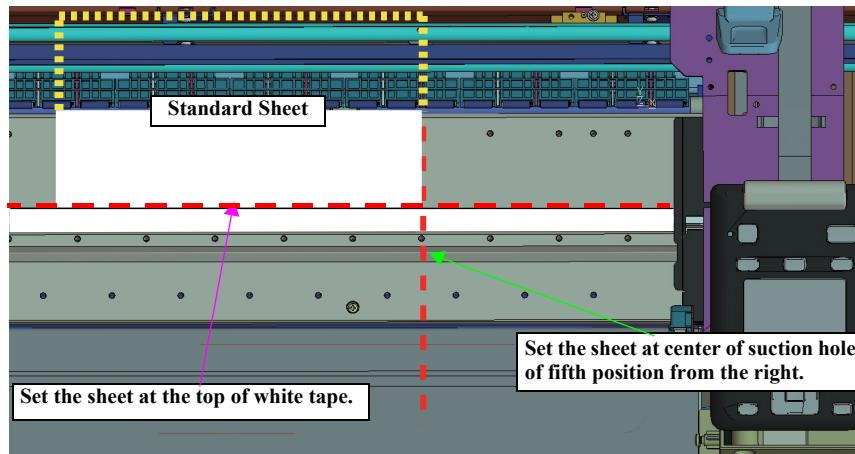

Figure 4-94. Position of the Standard Sheet
9. Insert the Standard Sheet to the position shown in Figure 4-94 and lower the Media Loading Lever to press the sheet. Make sure to secure the followings. (Set the standard sheet on the place specified in Figure 4-94 following the instructions below, and then lower the media loading lever.